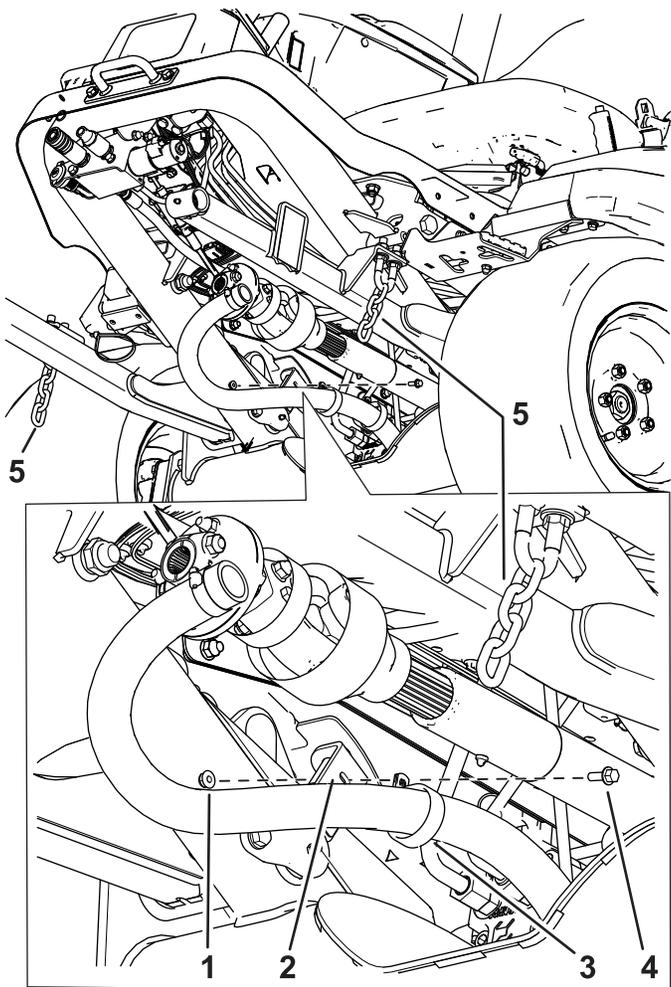

Figure 17
6. Install the R-clamp to the machine bracket with a bolt (1/4 x 3/4 inch) and flange nut (1/4 inch); refer to (Figure 17).
12. Use cable ties to secure the chains to the U-bolts (Figure 17).